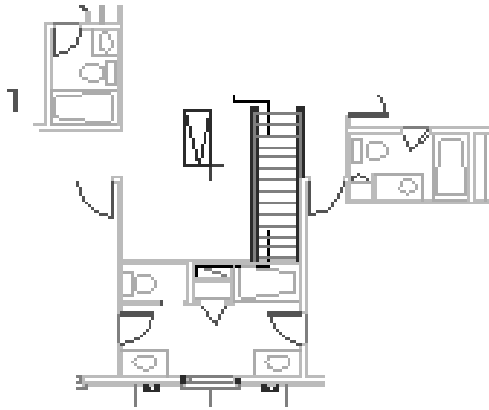

Figure 19-12: The clipped xref.
11. Save your drawing. It should look like Figure 19-12. (If you have AutoCAD LT, you still see the entire xref.) Keep the drawing open if you're continuing on to the next exercise.